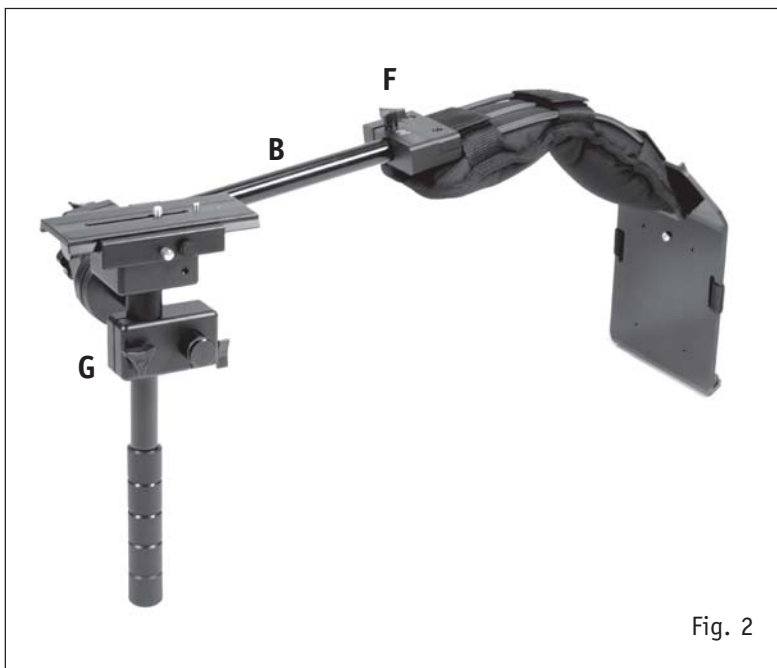

Fig. 2
Refer to Fig. 2 - Release wingnut **F** on the shoulder pad assembly and insert stepped portion of rod **B** fully into the shoulder assembly block and lock wingnut **F**, but do not overtighten.
Step 4 - Panning (refer to Fig. 2)